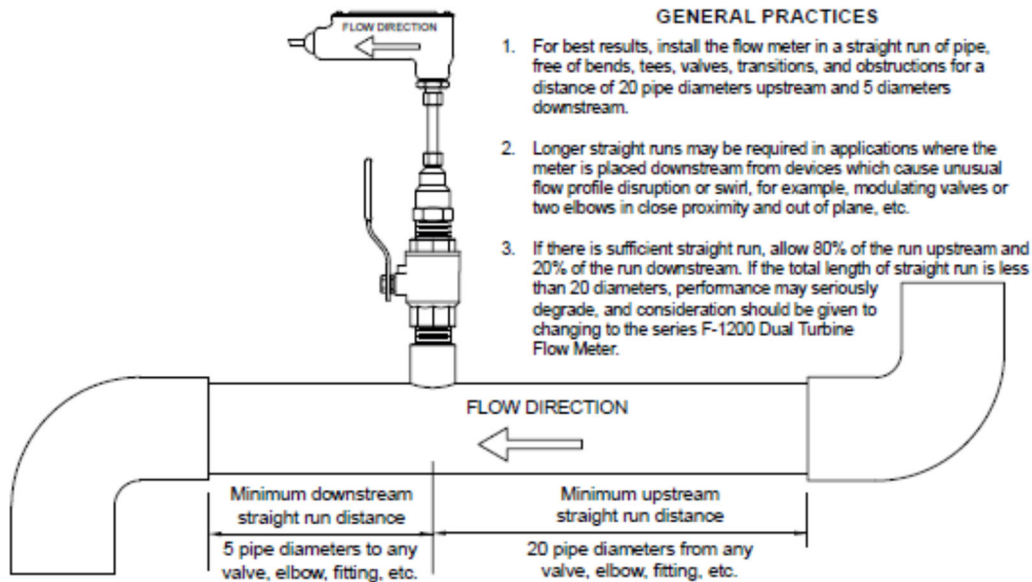

Figure 11: Condensate Meter
- 1: Furnish and install an Onicon F-1100-10 and BTU Totalizer D-100 Series. (Figure 11)